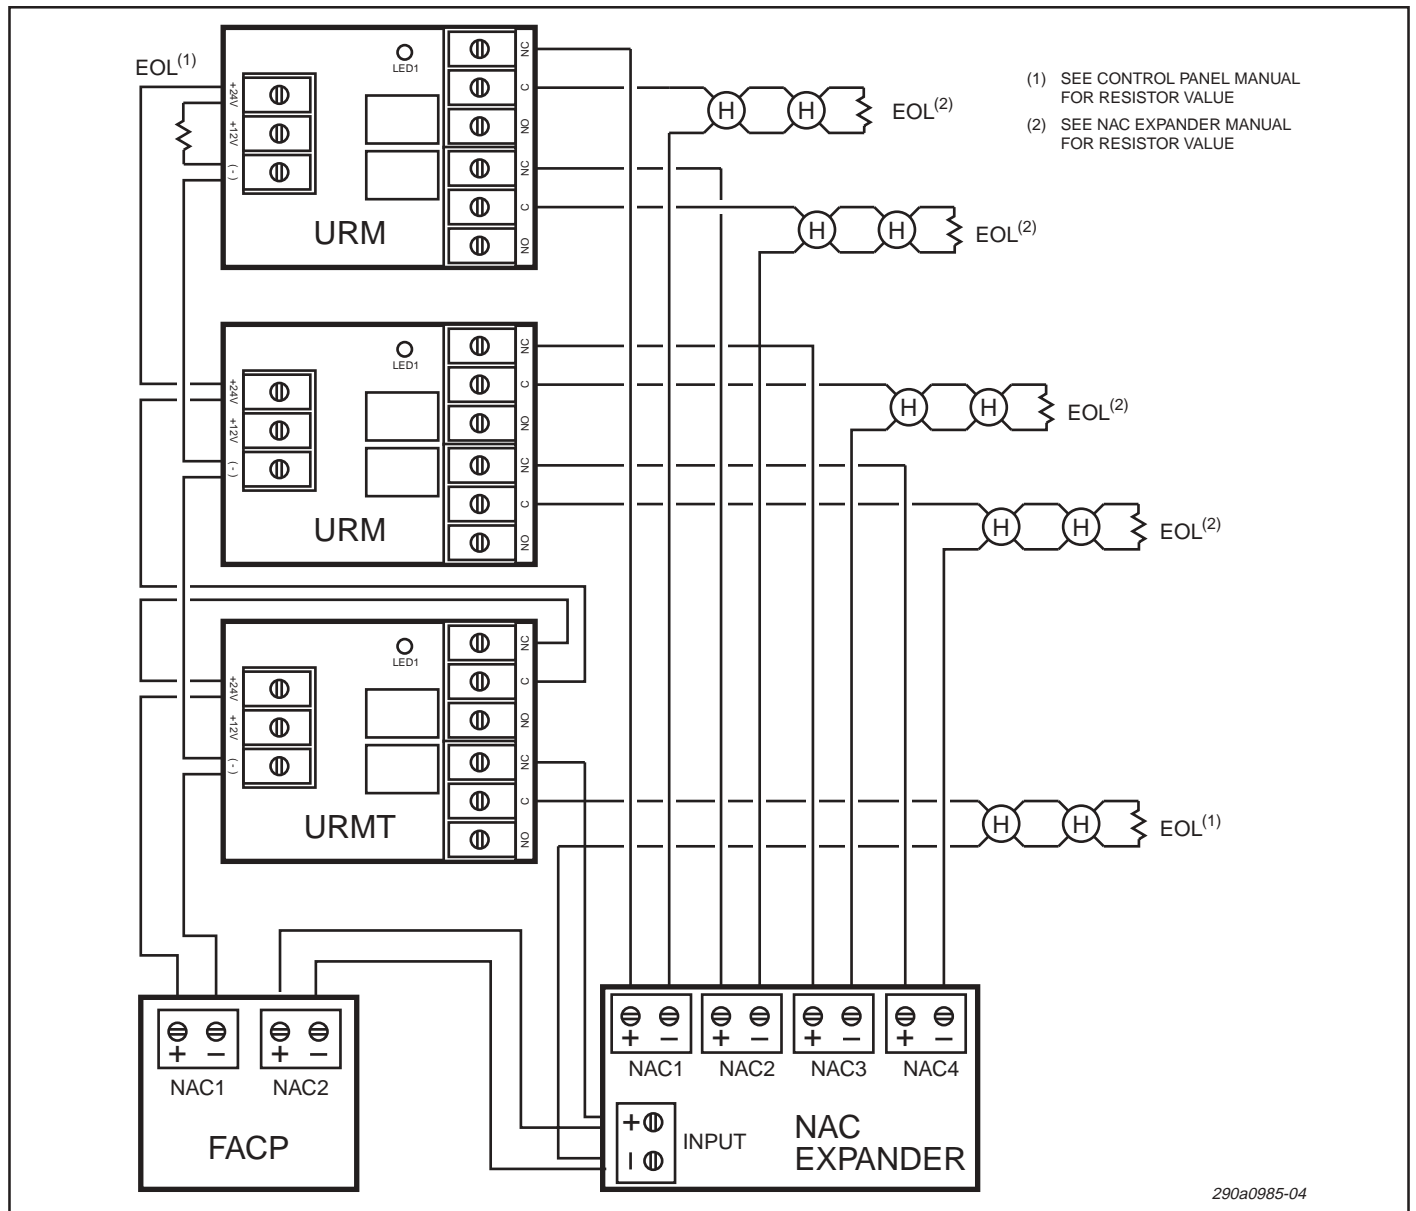

Figure 5. Multiple NAC circuits using master/slave configuration.
3. See Figure 5 for typical system wiring when one or more Listed NAC expanders and a master / slave relationship using a URMT and one or more URMs for Fire-Protective Signaling systems.